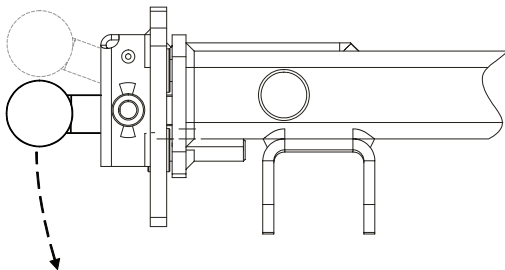

Figure 3-13
1. The swing-away will latch itself when closed. When properly latched the ball will move forward. *See Figure 3-13.*